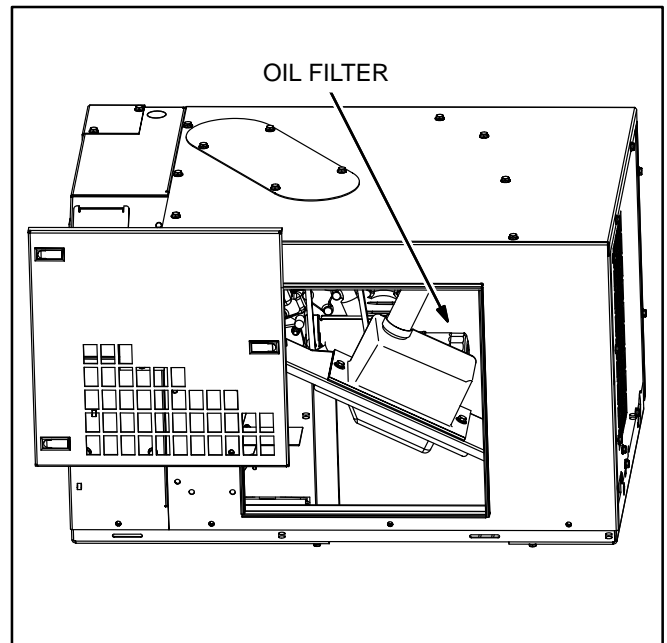

FIGURE 10. OIL FILTER ACCESS THROUGH FRONT
3. Remove the front and bottom access covers (Figures 10 and 11) and direct the end of the drain hose into a container.